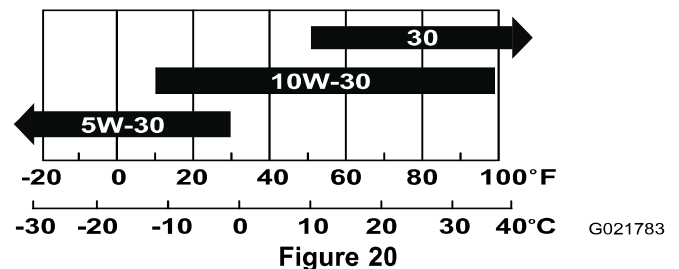

Figure 20
**Note:** Use SAE 10W-30 for general use. You can use the other viscosities shown in the chart when the average temperature in your area is within the indicated range (Figure 20).